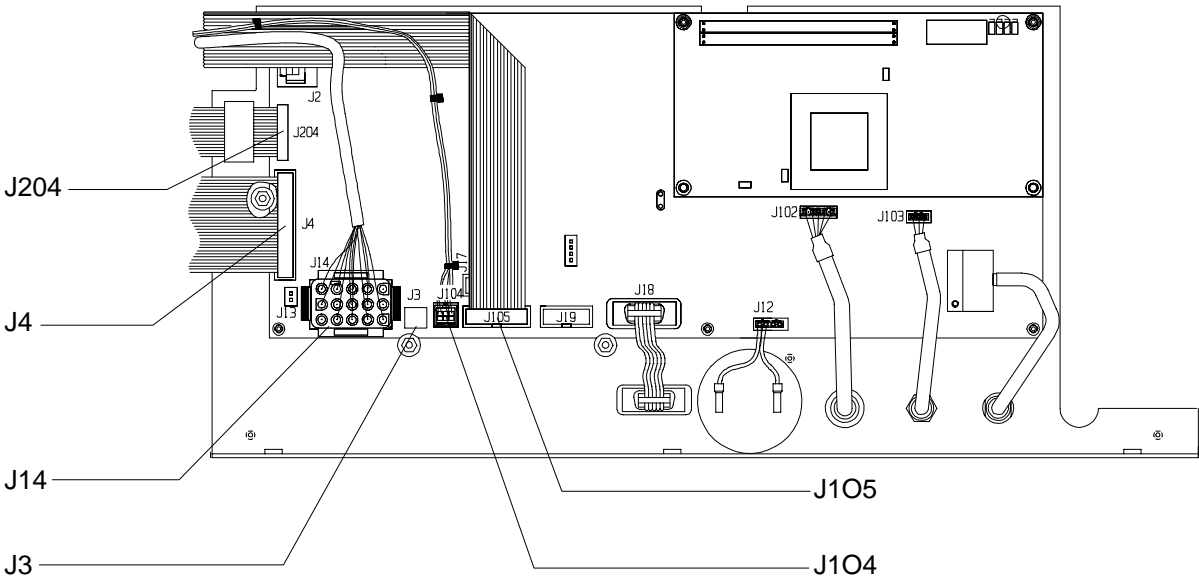

FIGURE 1. Processor Assembly Removal From Machine
5. Remove the vent box back panel screws. See Figure 1.